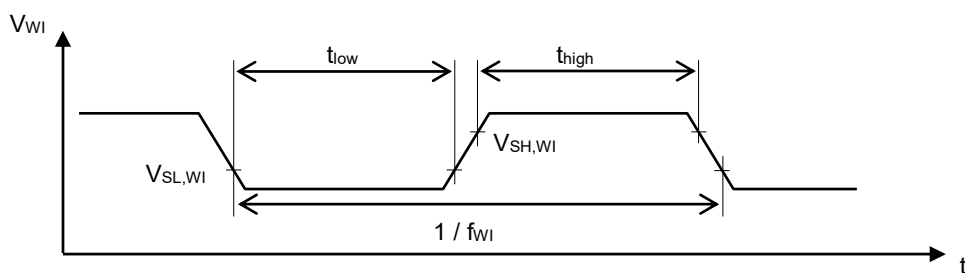

Figure 5
- \*2. When inputting a rising edge that satisfies the condition of Figure 5 to the WI pin, the watchdog timer detects a trigger.
The signal input from the monitored object by the watchdog timer should satisfy the condition of Figure 5.